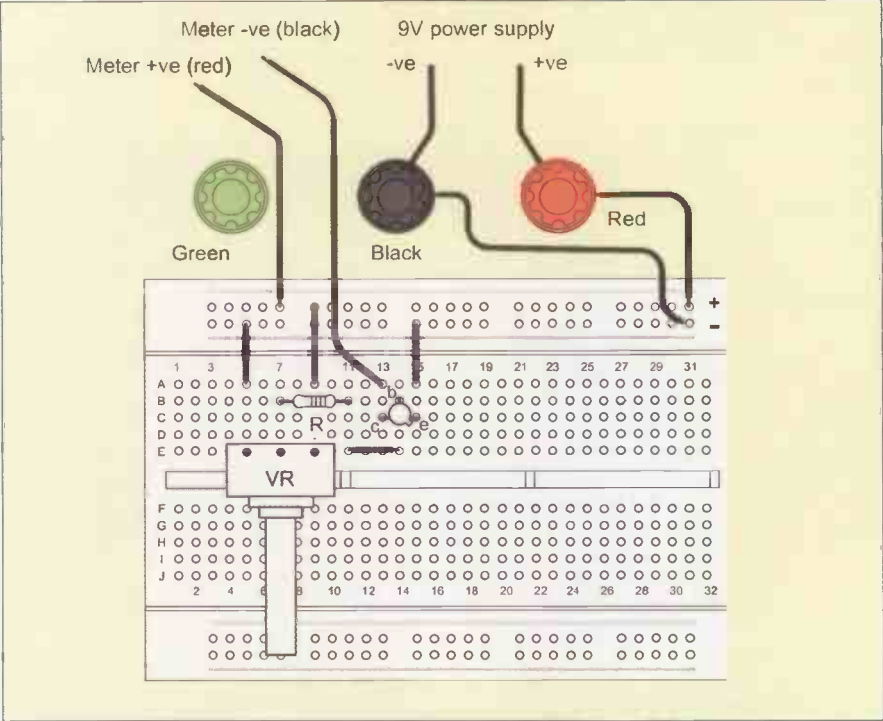

Fig. 6.22. Wiring diagram for measuring the collector current in Practical Investigation 6.1
3. Switch off (or disconnect the battery) and reconnect the circuit as shown in Fig. 6.20b, Fig. 6.22 and Table 6.7. Set the meter to the DC 20mA range.
Table 6.7 To measure collector current in Fig.6.22